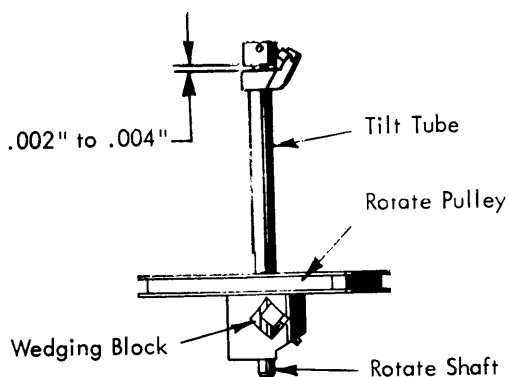

FIGURE 34. Rotate Shaft End Play Adjustment
2. Rotate Shaft End Play - Adjust the rotate pulley up or down on the rotate shaft so that .002" to .004" end play exists in the rotate shaft relative to the tilt tube (Fig. 34).